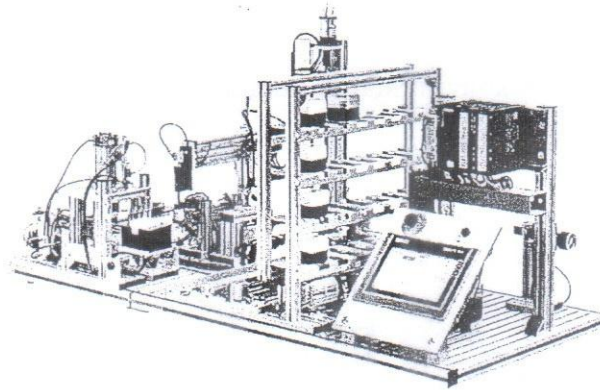

Figure 1: An example of a mechatronics system in manufacturing
1. a) Figure 1 shows an example of a mechatronics system illustrating different manufacturing process activities. Discuss the technologies that defined a mechatronic system such as in the following example. **(15 Marks)**